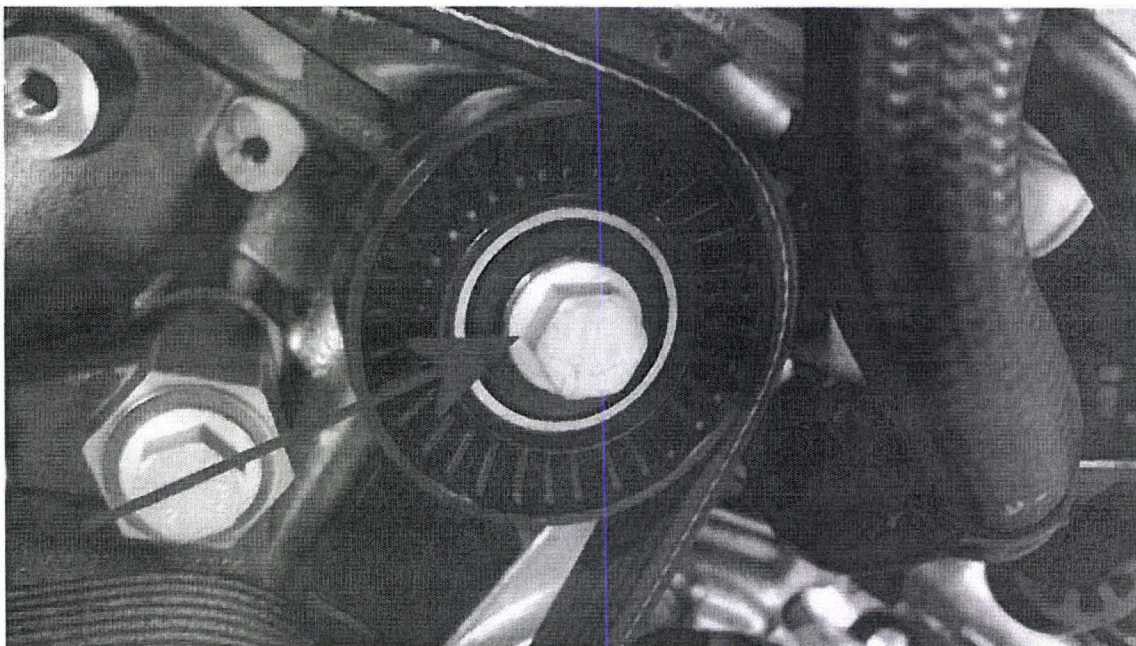

Figure 5
-The new specification pulley is now supplied and secured with a 16mm Hexagon headed bolt (Figure 5) Do not under any circumstances use any other fixing other than the new 16 mm Hexagon headed bolt supplied with the latest specification pulley